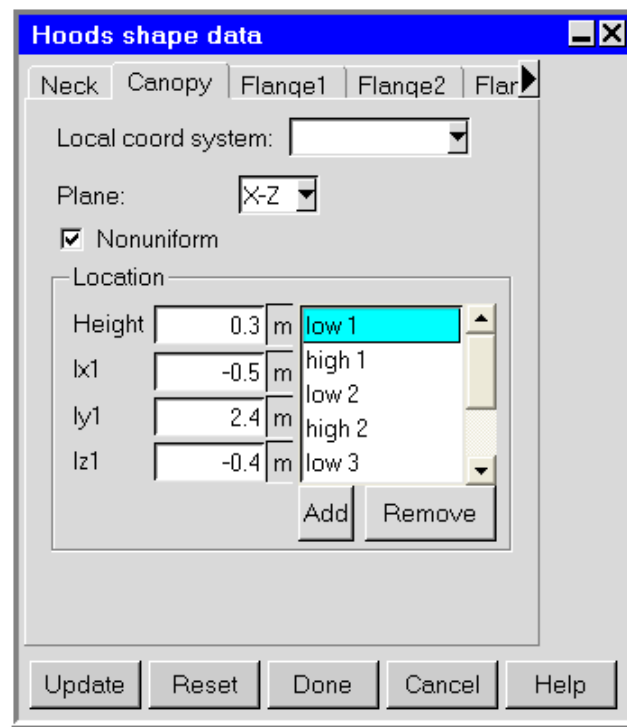

Figure 18.3.3: The Hoods shape data Panel (Canopy Tab)
- (e) To specify the canopy in the hood, click the Canopy tab (Figure 18.3.3). The default canopy is defined as a non-uniform polygon. Specify the plane